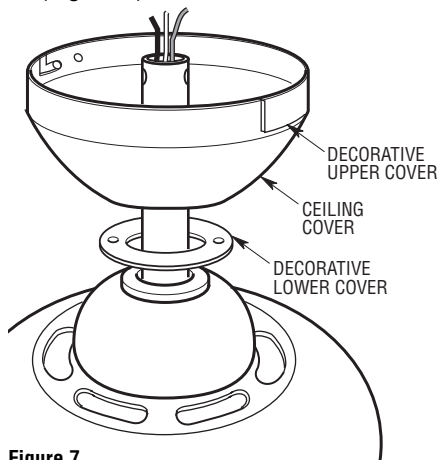

Figure 7
- 6. Place the decorative lower cover and ceiling cover over the downrod. Be sure both pieces are oriented correctly (Figure 7).